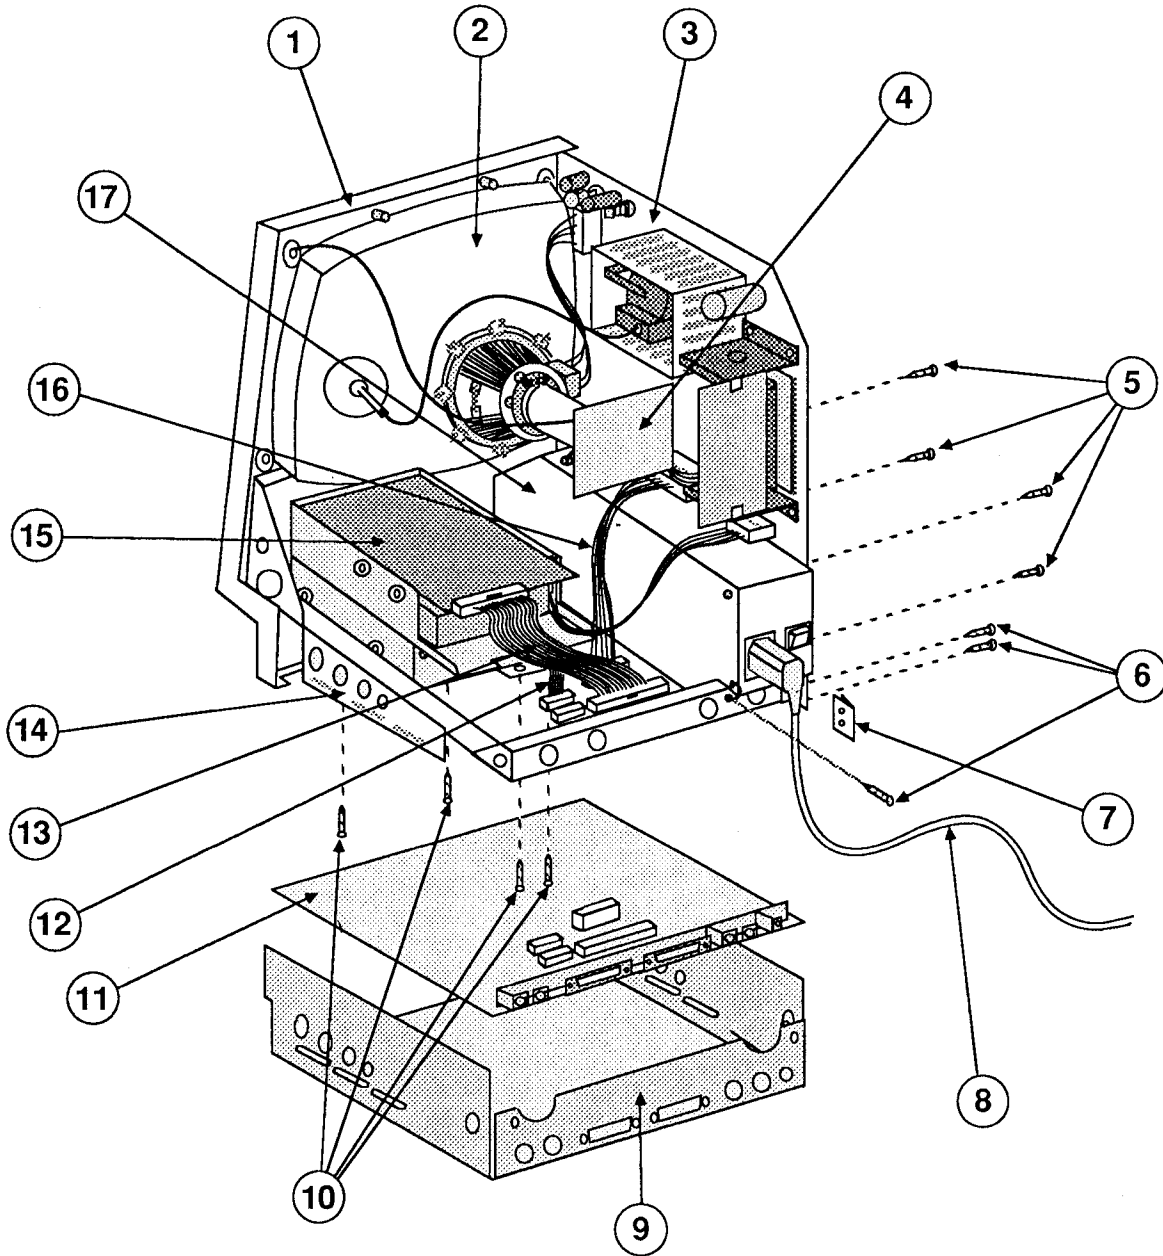

FIGURE 1
- IPL.3 Internal View (Figure 1)
□ MACINTOSH SE – INTERNAL VIEW (Figure 1)